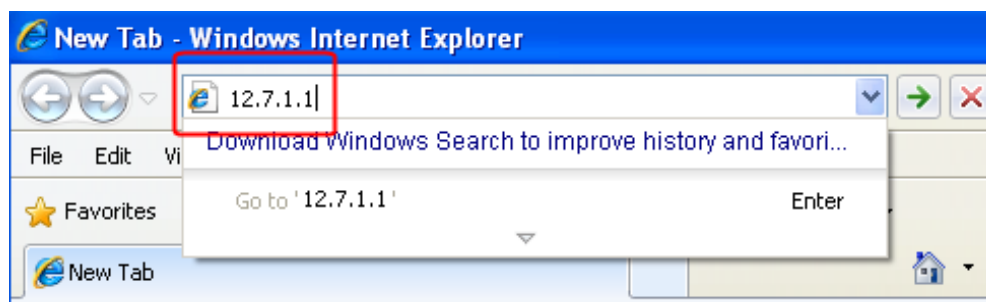

Figure 2-9 Connecting to WebOMT
6. Open a browser window and enter the assigned default gateway into the navigation bar. This will access the WebOMT page. Figure 2-9 shows an example using 12.7.1.1 as the default gateway.